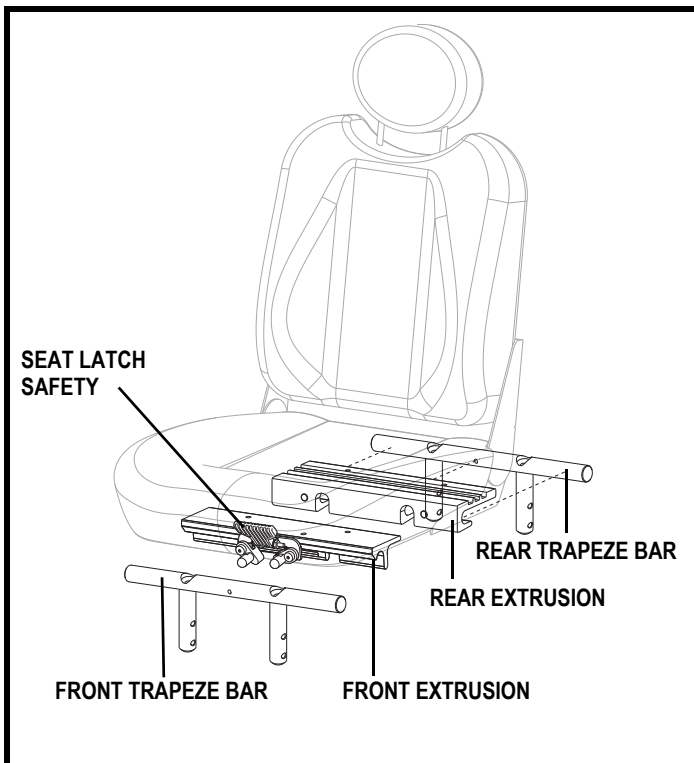

Figure 10. Universal Mounting System
2. Tilt the seat back and slide the rear extrusion onto the rear trapeze bar. **See figure 10.**
3. Remove the seat from the power base. **See figure 10.**